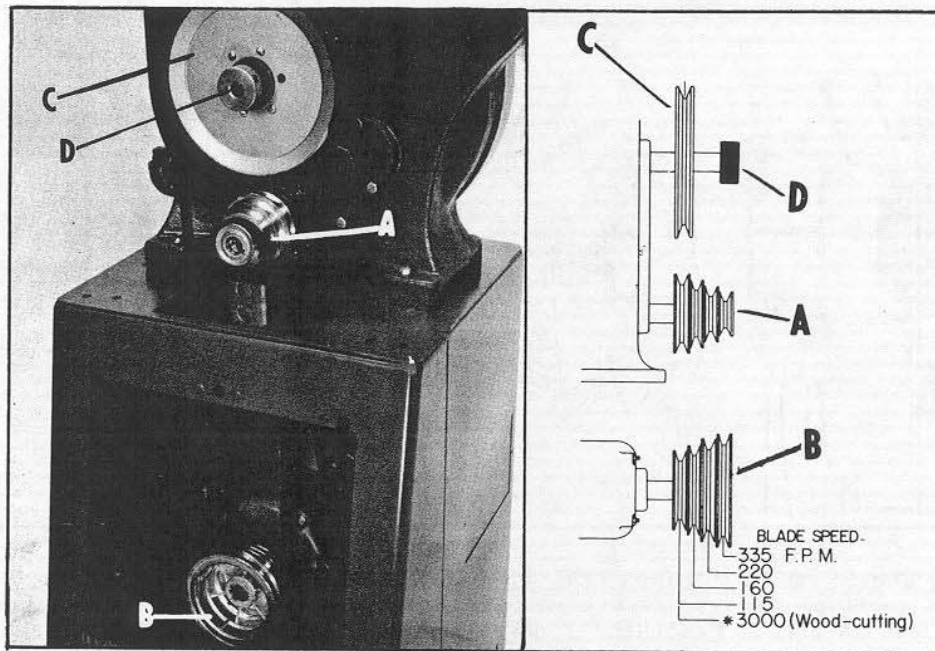

Fig. 22
Blade speeds of 115, 160, 220, 335 and 3000 FPM are available by simply interchanging the positions of the motor pulley and the gear box pulley. Fig. 22 shows the motor pulley (A) positioned on the gear box shaft and the gear box pulley (B) positioned on the motor shaft. Then with the long belt positioned on the inside groove of pulley (B) and pulley (C) and the small belt positioned to one of the remaining three grooves of the pulleys (A) and (B) Fig. 22, speeds of 160, 220, and 335 FPM are obtained when the shifter knob (D) is pushed in. To obtain the 3000 FPM blade speed simply pull out the shifter knob (D) Fig. 22. Blade speed of 115 FPM is obtained by pushing the shifter knob (D), removing the long belt from pulleys (B) and (C) and placing the small belt on the inside groove of the motor pulley (B) and gear box pulley (A).